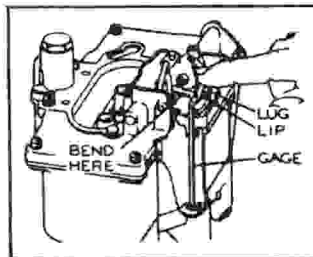

Figure 4
a. Type "A". (See figure 4.) Back out throttle stop screw until throttle valves seat in bores. Insert metering rod gage, included in kit, in place of either metering rod. Press down on vacuum piston link (lightly) until metering rod pin rests on end of gage. The lug should just touch (not force) the lip, as shown. Adjust by bending the lip on metering rod arm.